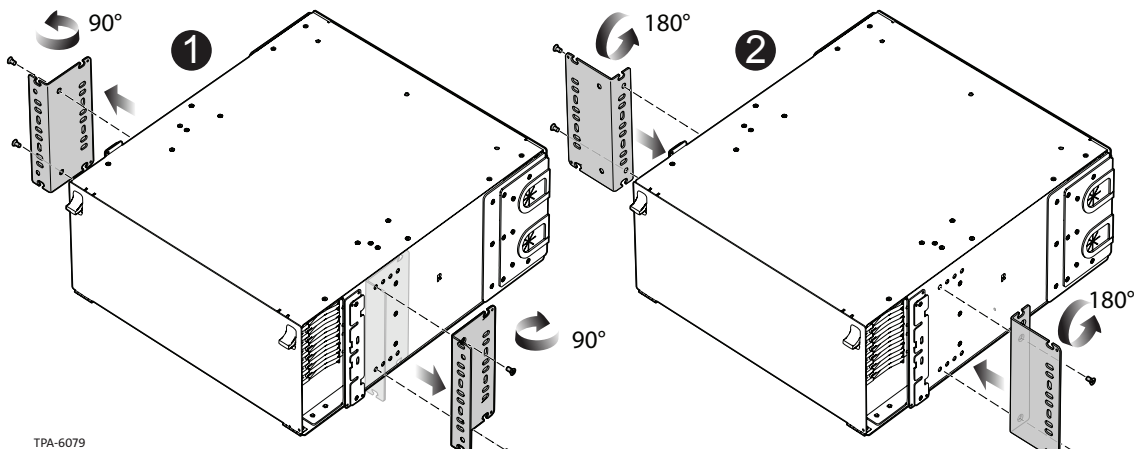

Figure 3
Step 2: Identify the desired frontal projection of the housing and attach the brackets to the sides of the housing with the longer side of the bracket facing outward (Figure 3).